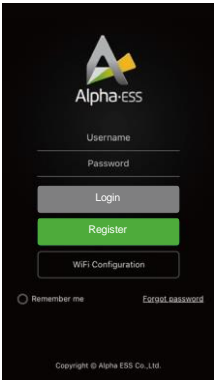

Figure 4.2 Network Setting
**Step 1** Open Alpha ESS APP, click the "Wi-Fi configuration" button and enter the WiFi configuration interface as shown in Figure 4.2